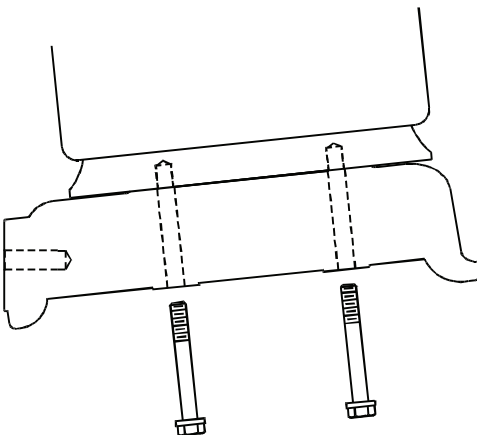

Figure 34 - Air Spring Lower Mount
3. Remove the bolts that secure the air spring to the lower control arm. See Figure 34.